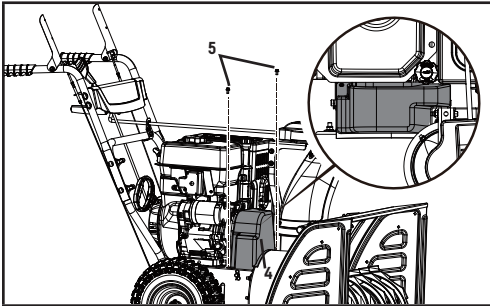

Figure 24
1. Remove the plastic belt cover (4) on the front of the engine by removing two M6 × 16 bolts (5) (Fig. 24).